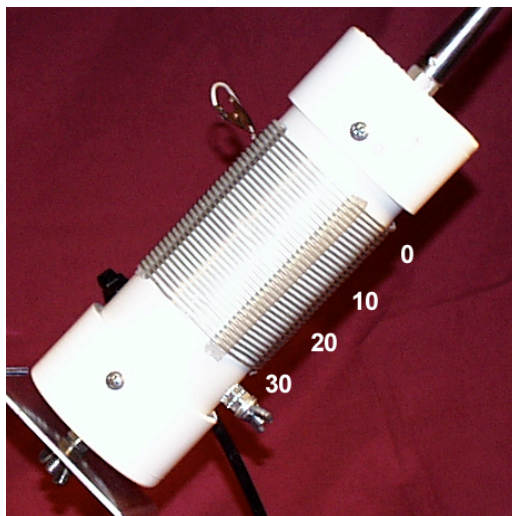

Figure 2
- [] 1. Begin by placing the tap on turn 0 (Figure 2) which will short the entire coil. The tap should only be in contact with one coil at a time.